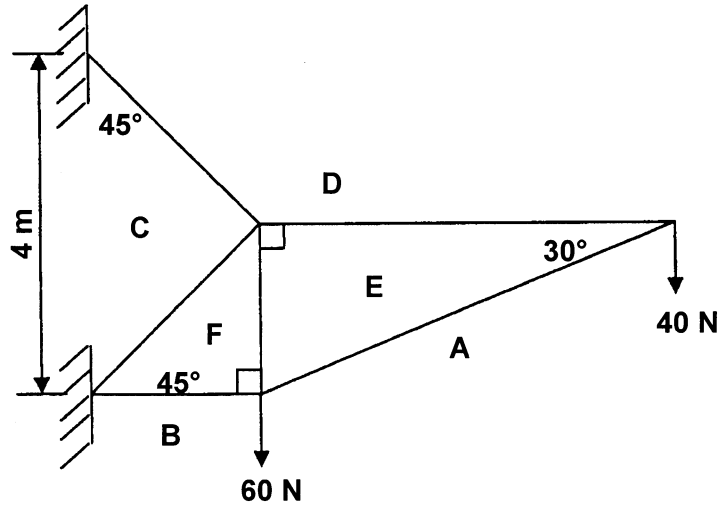

Figure 1
2.1 **Figure 1** shows a line diagram of a cantilever roof truss. The truss is subjected to two vertical point loads.